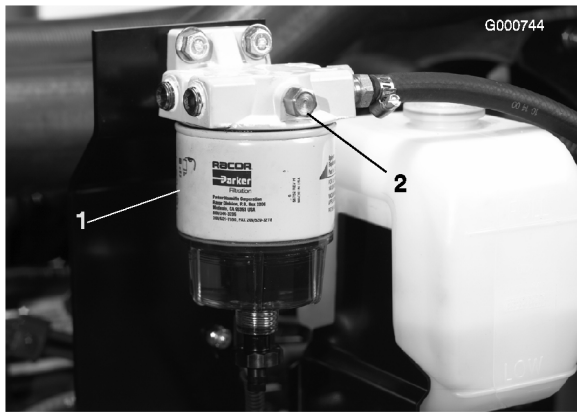

Figure 23
3. Open vent plug on the fuel filter/water separator (Figure 23).